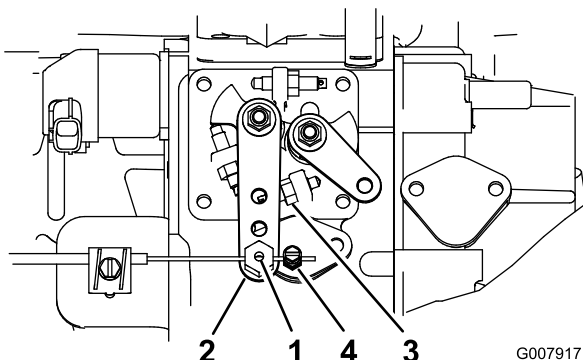

Figure 65
2. Loosen the throttle cable connector, on the throttle cable, next to the injection pump lever (Figure 65).
3. Hold the injection pump lever arm against the high idle stop (Figure 65).